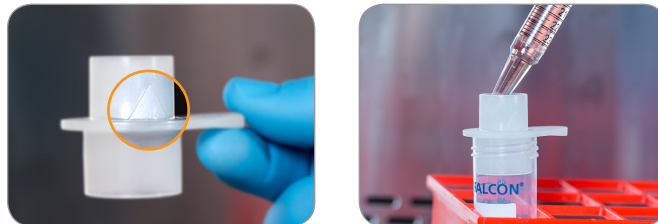

Figure 2. Collect the hPSC aggregates using a conical tube and reversible strainer, with the arrow pointing upwards.
2. Filter out non-aggregated single cells by passing through a large 37 μm Reversible Strainer (Cat #27250) into a 50 mL centrifuge tube. Make sure the arrow on the strainer is pointing up (Fig. 2).